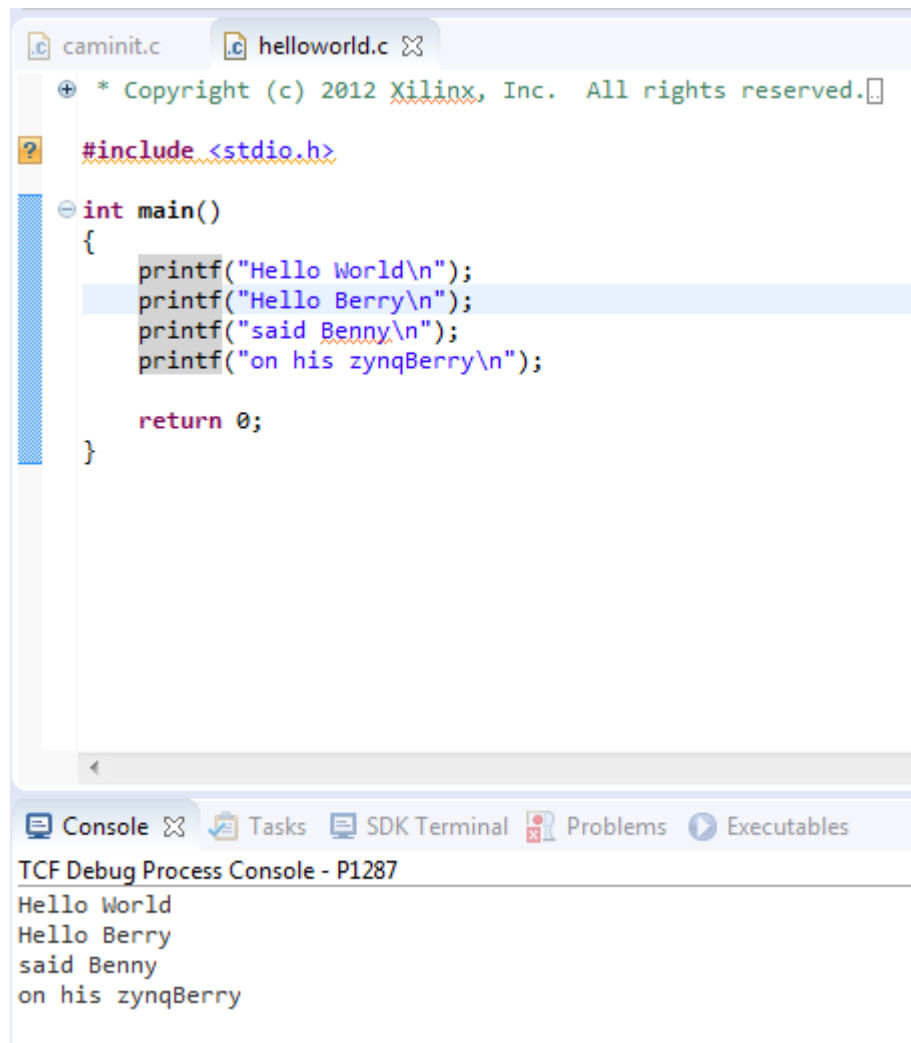

Figure 3. Debug perspective showing source code and console output.
- c) On the SDK panel, select “Run” menu and then “Debug configurations ...”. A new panel will show up. See Figure 2B. Select “System Debugger on Local” at the left side. Select “Linux Application Debug” and press “New” to set up a connection between your host computer and your ZynqBerry. Another panel shown in Figure 2D will appear. You need to fill in the same ip-address as was previously detected for your ZynqBerry. Port number should always be 1534. Before you close this panel, it is advisable to test the connection between host computer and ZynqBerry. Then press “OK” button. Figure 2C shows how name of project, local file path to compiled executable and remote file path to executable on target hardware is specified. It is enough to open the browser showing available software applications, select one application and all data will be filled in automatically. The path */mnt* on ZynqBerry is where the debugger will download the executable for debugging or running the application remotely. The debug session is finally started when you press “Debug” at the down right-side of panel. A new perspective will open where e.g. source code and console output can be viewed as you execute your code line by line. See Figure 3.